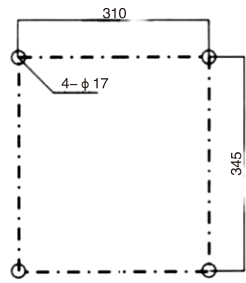

Figure 7 Circuit breaker mounting dimensions
7.3 The bolts for mounting the circuit breaker are M16X50, 4 pieces in total. See Figure 7 for specific installation dimensions.